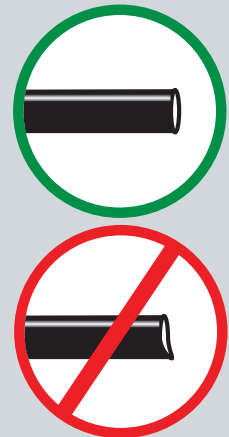

fig. E.4
When cutting air lines, use a sharp knife or a hose cutter and make clean, square cuts (Fig. E.4). Do not use scissors or wire cutters because these tools may deform the air line, causing it to leak around fittings. Do not cut the lines at an angle.
- a. Check the air line connection by deflating the spring and removing the line by pulling the collar against the fitting and pulling firmly on the air line. Trim 1" off the end of the air line. Be sure the cut is clean and square (see Fig. E.4). Reinsert the air line into the push-to-connect fitting.